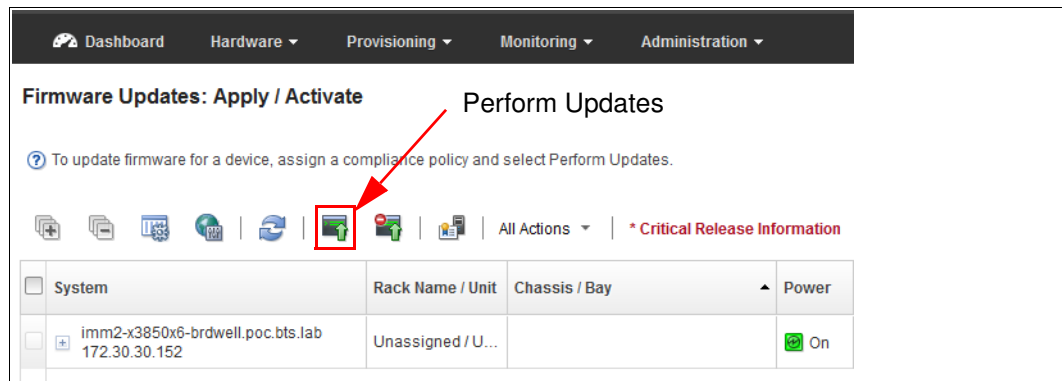

Figure 7-18 Firmware update selection
2. In the Firmware Updates: Apply / Activate page, select the required hardware components to update, and click the **Perform Updates** icon, as shown in Figure 7-18.